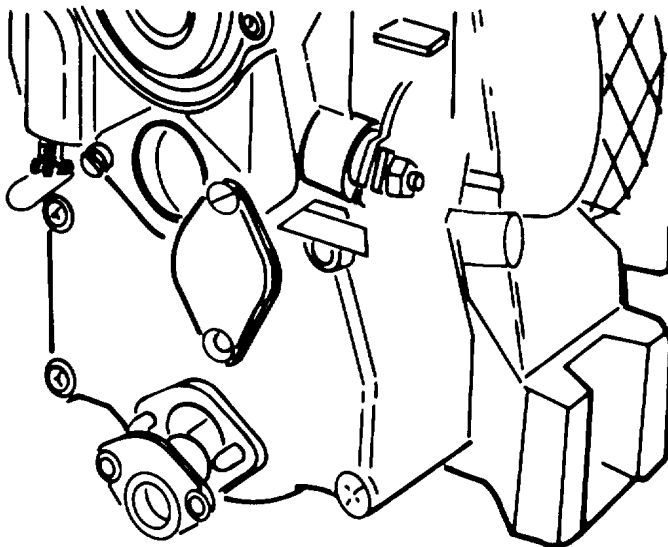

Figure A-18. Oil Filter Screen
n. Oil Filter Screen. Before removing the connecting rod, drain the engine oil. Remove the oil filter screen assembly,. (Figure A-18.)